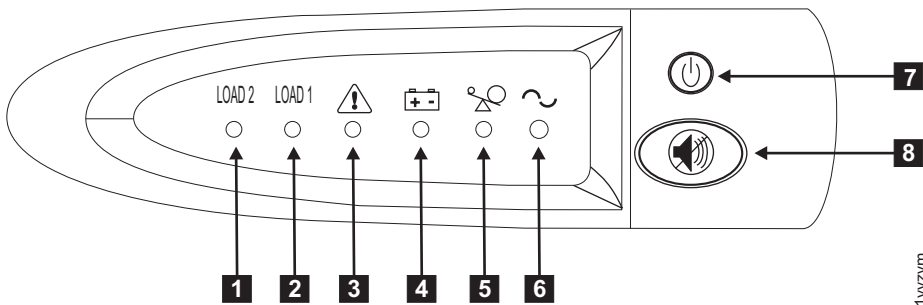

Figure 320. 2145 UPS-1U front-panel assembly
12. To turn on the 2145 UPS-1U, press and hold the on/off button (**2** in Figure 320). On some versions of the 2145 UPS-1U, you need a pointed device, such as a screwdriver, to press the on/off button. The 2145 UPS-1U undergoes a self-test, taking approximately five seconds, before the power-on indicator **1** and the load indicators (**7** and **8**) light up permanently to indicate that the 2145 UPS-1U is supplying power to the SAN Volume Controller. The 2145 UPS-1U begins to charge its battery while in normal mode.